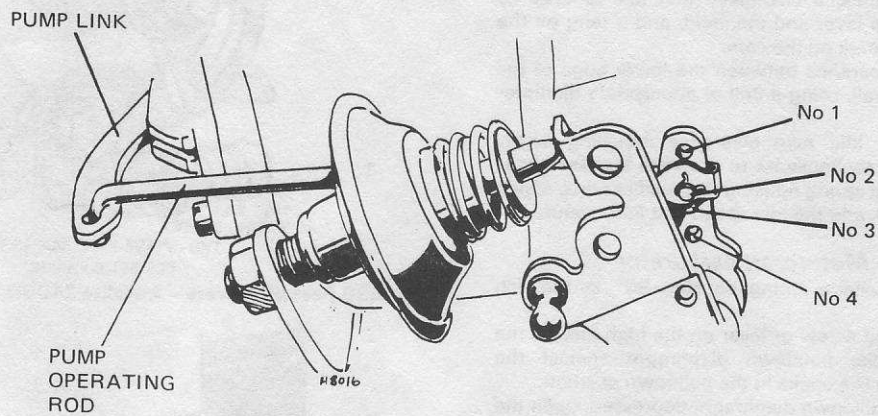

Fig. 3.28 Accelerator pump stroke adjustment (2100 carburetor) (Sec. 15)
- 10 The primary throttle shaft lever (overtravel lever) has 4 holes and the accelerating pump link has 2 holes (see Fig. 3.28) to control the pump stroke.